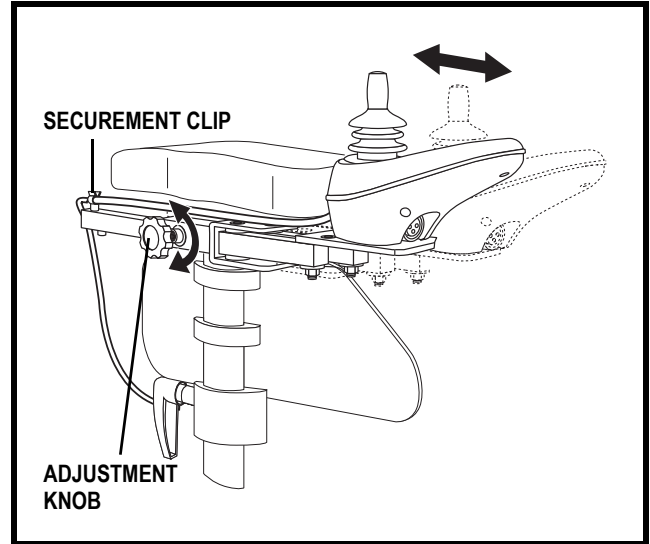

Figure 23. Controller Position
1. Loosen the adjustment knob on the armrest. See **figure 23**.